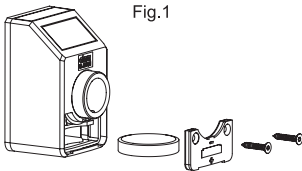

Fig.1
- The internal battery has a battery life up to 2.5 years. A specific symbol appears on the display when the battery needs replacing. It is easy to replace the battery by removing the front cover (Fig. 1) without having to remove the indicator from the drive shaft and without losing the configuration parameters.